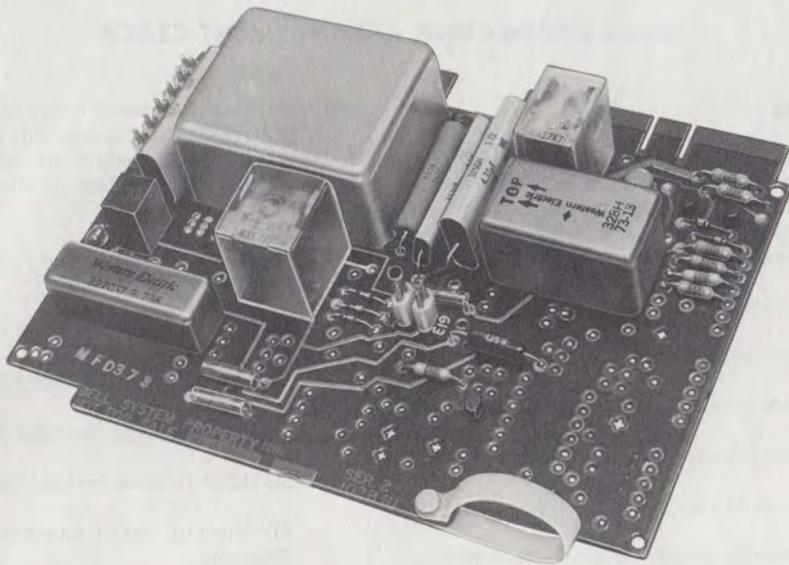

Fig. 1—102B Interconnecting Unit
1.03 The 102B IU (Fig. 1) is an improved version of the 102A IU with option terminals for line impedance matching. No pulse correction is required. In existing installations using pulse correction, the 103A pulse correctors must be removed when replacing the 102A IUs with 102B IUs. The 102B IU also increases the range limitation to the customer-provided equipment (CPE) from 18 ohms to 100 ohms maximum on the supervision leads (CS and CG).
- Unit, Interconnecting, 102A or 102B (one per CO line, Fig. 1).
- Option terminals (Fig. 1)